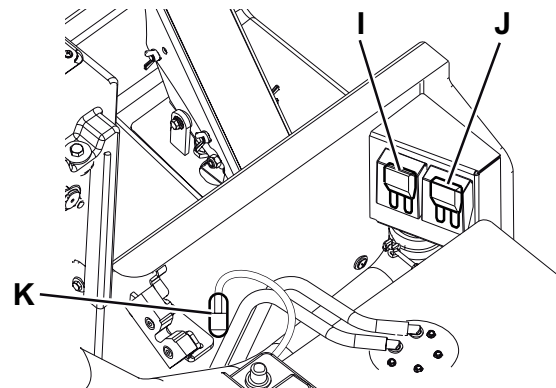

Figure 11
3. Turn the ignition key (66) to "O" and remove it.
4. Open the engine compartment hood (1) by using the unlocking push-button (25).
5. In the driver's seat area, remove the covers and check the following fuses for integrity (Fig. 11):
- (I): F9 (50 A), pre-heating glow plug
- (J): F10 (50 A), alternator
- (K): F11 (1 A), hood inner light (optional)
6. Close the engine compartment hood (1).